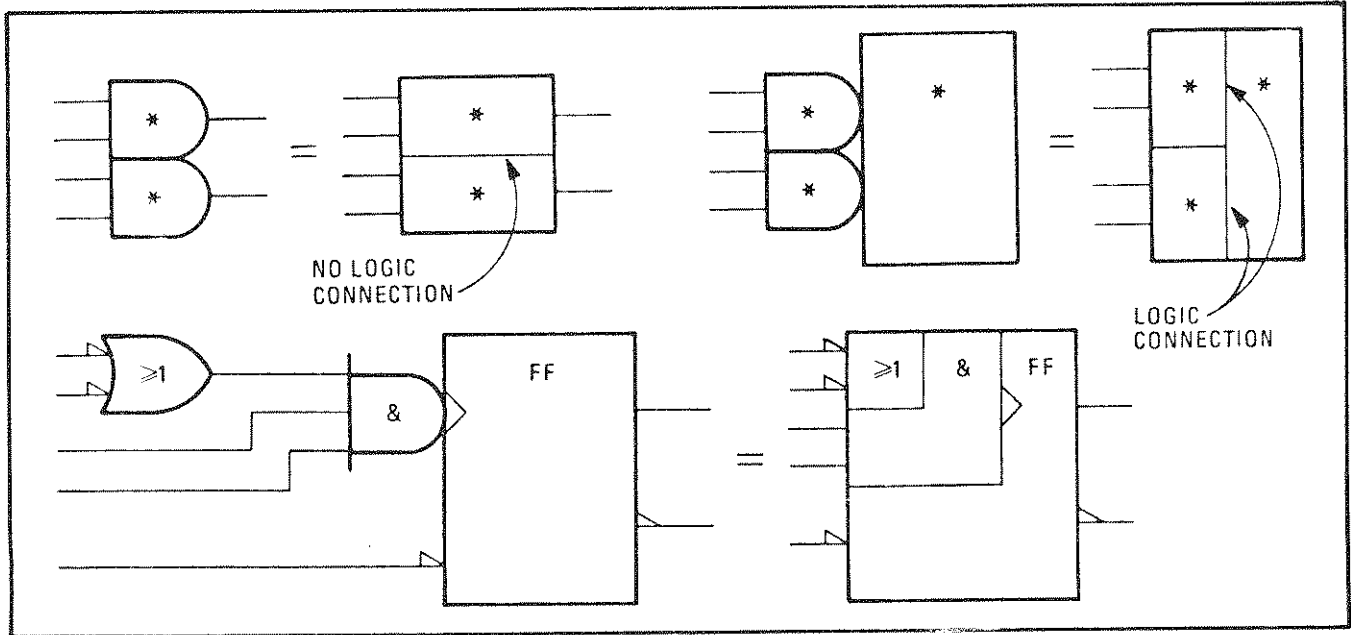

Figure B-4. Contiguous Blocks
**Contiguous Blocks.** Two symbols may share a common boundary parallel or perpendicular to the direction of signal flow. Note that in the examples shown in Figure B-4 there is generally no logic connection across a horizontal line, but there is always